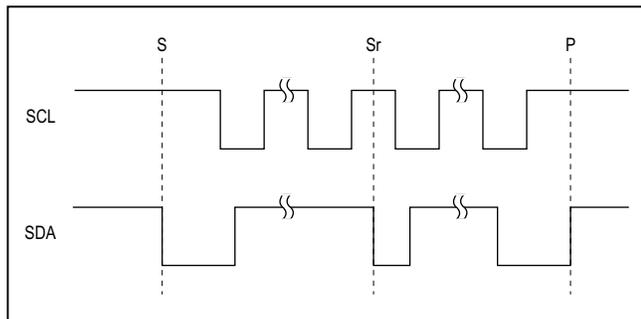

Figure 4. I2C START, STOP, and REPEATED START Conditions
When writing to the MAX14720/MAX14750 using I2C, the master sends a START condition (S) followed by the MAX14720/MAX14750 I2C address. After the address, the master sends the register address of the register that is to be programmed. The master then ends communication by issuing a STOP condition (P) to relinquish control of the bus, or a REPEATED START condition (Sr) to communicate to another I2C slave. See Figure 4.